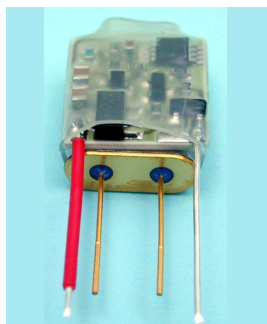

Fig.2
- c. Measure voltage at M2 (Fig. 2) . Tune bandfilter F1 (351 MHz) to minimum voltage (ca...6 V) at M2.
- d. Measure voltage at M3 (Fig. 2). Tune bandfilter F2 (702 Mhz) to minimum voltage (ca...4.8 V) at M3.
- e. Measure voltage at M4 (Fig. 2). Tune bandfilter F3 (1404 MHz) to maximum voltage (ca...4.3 V) at M4.
- i. Switch transverter to transmit by grounding the PTT input. Connect a 50 Ohm dummy load to the RX output. Adjust all FETs in the TX-chain by the appropriate bias pots to the drain voltage given in the circuit diagram (Fig. 2). Drive the transverter with 1...3 W on 144 MHz. Measure the monitor voltage at MON OUT. Only adjust the resonator in the TX-chain to a maximum by careful tuning. There is only one maximum, because the first resonator has already been tuned in the step before. Lock the tuning screw with a security nut.
2. Schaltung auf den Quarz aufschumpfen (Fig. 2), wobei auf nicht zu hohe Temperatur zu achten ist.
2. Warm the heat shrink tubing to hold the circuit next to the crystal (Fig. 2), ensure that the temperature is not too high.